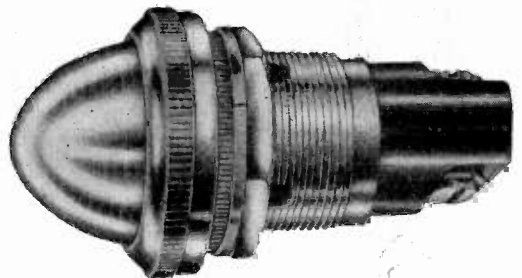

FIG. 4
- 19901-531 Screw cap, Large torpedo lens (Fig. 4) Screw terminals (Fig. 8)